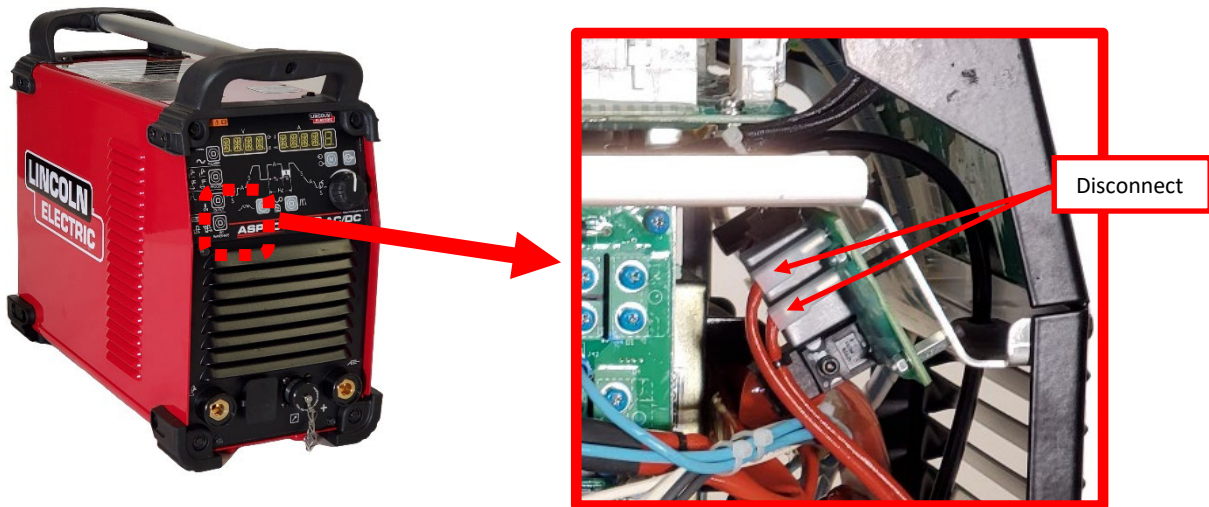

Figure F.2
A.1. Ensure the machine is off, not plugged in or connected to external power. Label and remove connectors identified before proceeding. Refer to Figure F.2 for locations.